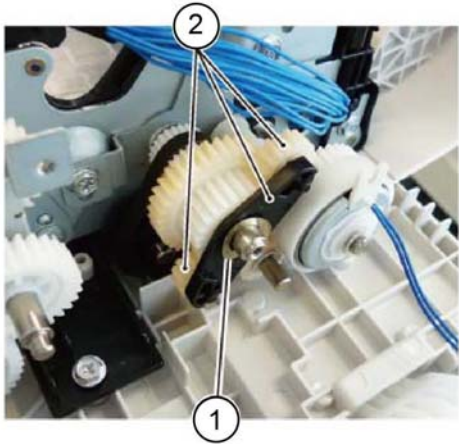

Figure 2 Idler gear bracket removal
9. Remove the idler gear bracket, Figure 2:
- a. Remove the washer (1).
- b. Remove two gears, then the idler gear bracket (2).